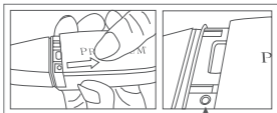

Figure 4
4. Remove the Battery Cover to reveal the Calibration Activation Button; a hole at the bottom left edge, as shown in Figure 4